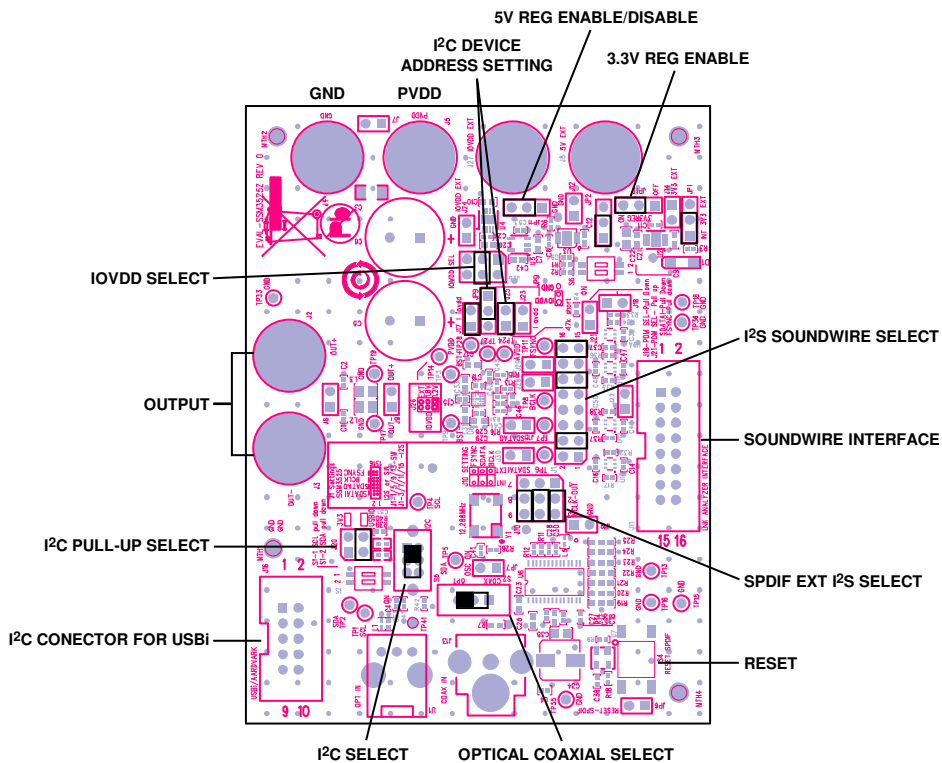

Figure 3. Board Settings for I2C to I2S Mode
10. Ensure that the jumpers are inserted across all three rows of JP10 to establish direct connection of the digital audio signal lines to the inputs of the **SSM3525**. See Figure 3 for setting the jumpers and switches.